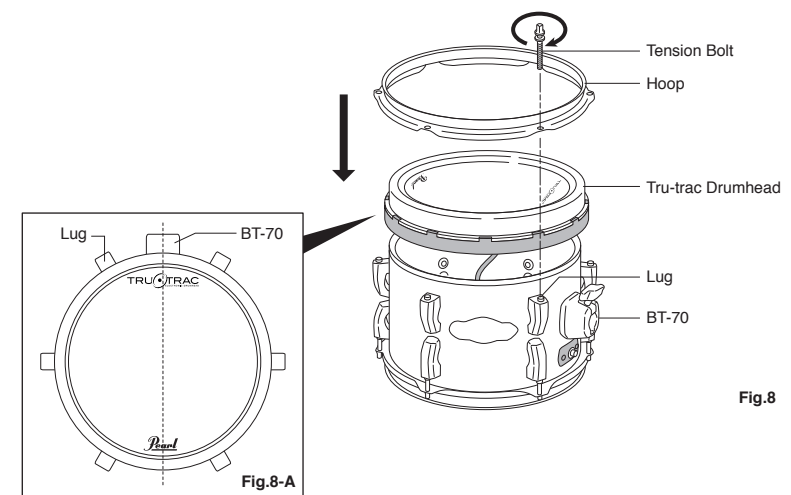

Fig.8
5. Place the Tru-Trac Drumhead on the shell and reattach the Hoop with the Tension Bolts (Fig. 8). **NOTE: The Jack Box Cables are short and have only limited reach. When assembling Toms, align the Tru-Trac logo with the BT-70 Tom Holder Bracket as shown (Fig. 8-A).** Similarly, when assembling the Snare Drum, align the Tru-Trac logo with the E-Pro Live Badge.